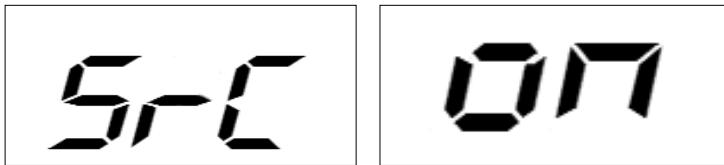

Fig. F3.11 - Message "Search Mode On"
- 1) Once the machine stops rotating, the screen will display SrC and enter the Search mode automatically. See Fig. F3.11.